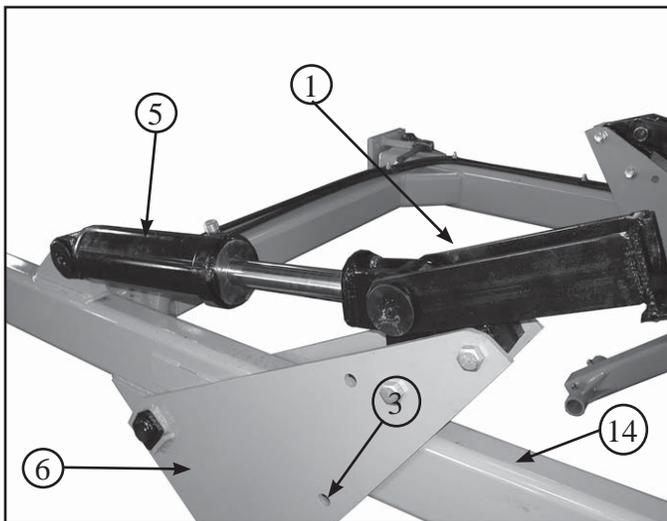

Figure 11 - R.H. Rear Lift Cylinder
8. If the disc is to be transported refer to Fig. 11 and fully raise the disc until the cylinders (5) are fully extended. Swing the transport lock down until they lay on the cylinder barrel. To take the disc out of transport position, make sure the cylinders are fully extended, then swing the transport lock up.